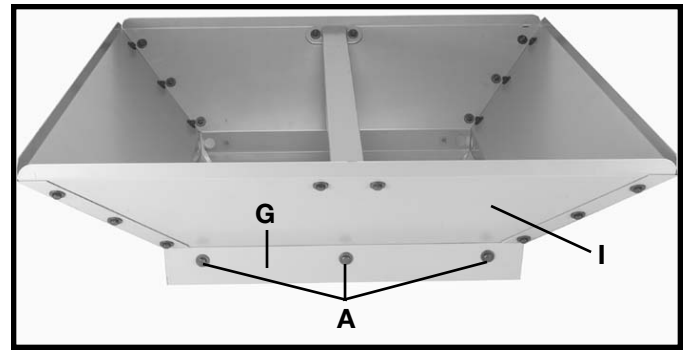

Fig. 15
4. Attach the top middle board (G) Fig. 15, to the front of the skew board opposite of the skew board that the curtain frame plates are attached. Align the three holes (A) Fig. 15, in the top middle board (G), with the three holes in the skew board (I). Insert a 1/4-20x5/8" flange screw through the hole in the top middle board and the hole in the skew board, thread a 1/4-20 flange nut onto the flange screw and tighten securely. Repeat this process for the two remaining holes in the top middle board and skew board as shown in Fig. 15.